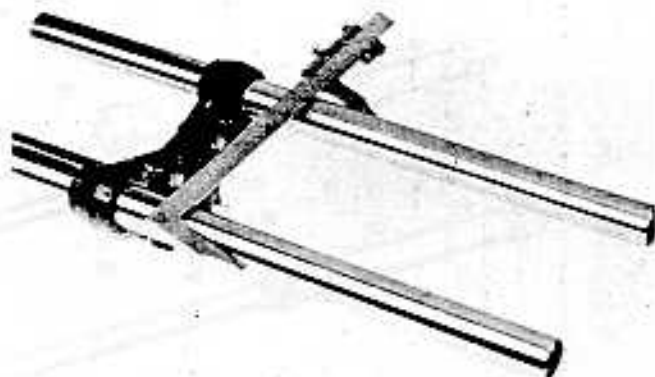

Fig. 205
Con un lungo calibro a corsoio misurare in vari punti la distanza tra i due steli. La differenza tra le varie misure ottenute non deve essere superiore a 0,10 mm (Fig. 205).
- Having checked the stanchions for truth, install them in the lower yoke and tighten the pinch screws firmly. With a vernier caliper of suitable size measure the distance between the two stanchions in several points. The figures obtained should agree within 0.10 mm (Fig. 205).